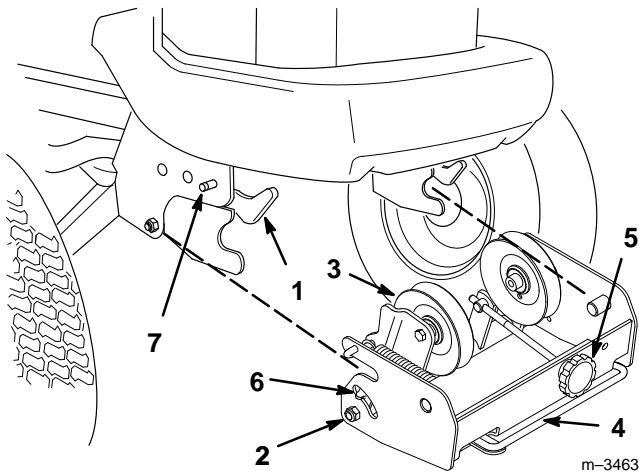

Figure 4
4. Attach the pulley box if it is not already on the tractor. Make sure the latches on the tractor's front Attach-A-Matic™ are open (Fig. 4). Then slide the pulley box into the Attach-A-Matic™ latches and seat it. Close the latches.